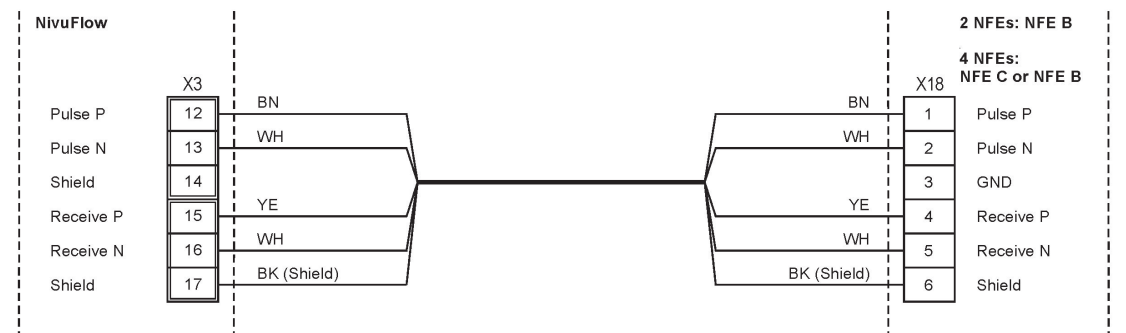

Fig. 18-11 Connection signal transmission NivuFlow - NFE
- Signal cable from NFE B (if using two NFEs) according to Fig. 18-11 to connection X3 (clamps 12...17) of transmitter